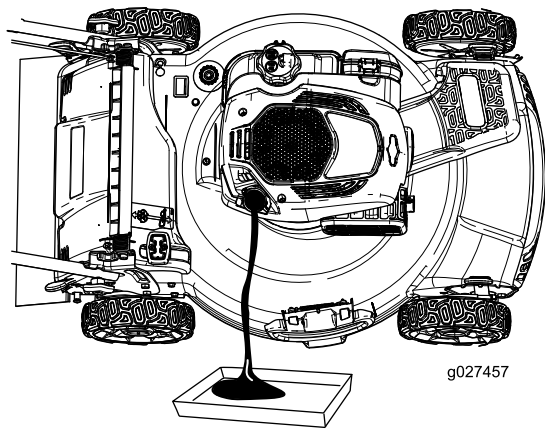

Figure 27
4. Tip the machine onto its side (so that the air filter is up) to drain the used oil from the oil-fill tube (Figure 27).